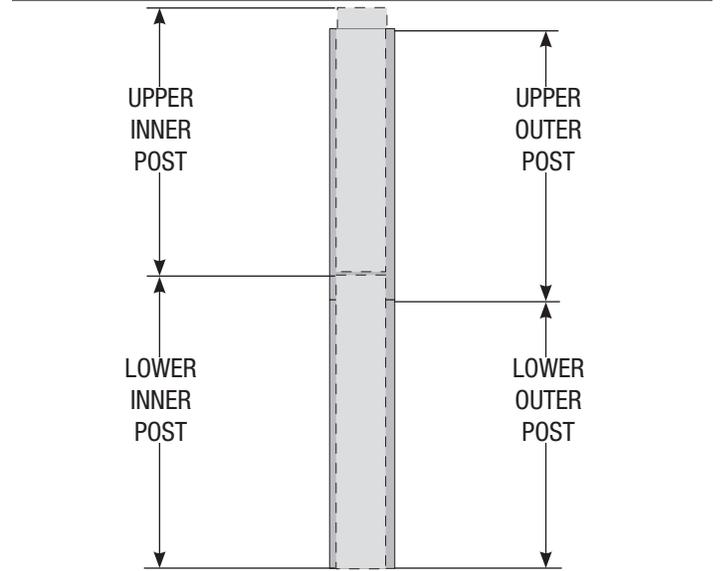

FIGURE 2
Stack all four tube pieces ((2) inner posts and (2) outer posts) into one assembly, as shown in **FIGURE 2**.